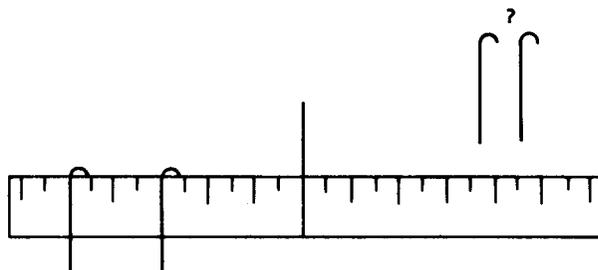

Figure 6-15
5. Place one clip at the 1-inch mark on the ruler and another on the 3-inch mark (Fig. 6-15). Find the position on the ruler on the other side of the fulcrum where you must place two clips to balance the ruler.